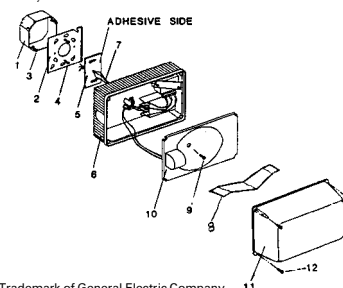

FIGURE 1
HOW TO INSTALL (Fig. 1)
- 7) On wall mounting units, heat shield (8) seats in grooves on sides of diffuser near top and pointed downward (shown in Figure 1). For ceiling mounting, heat shield is not used.